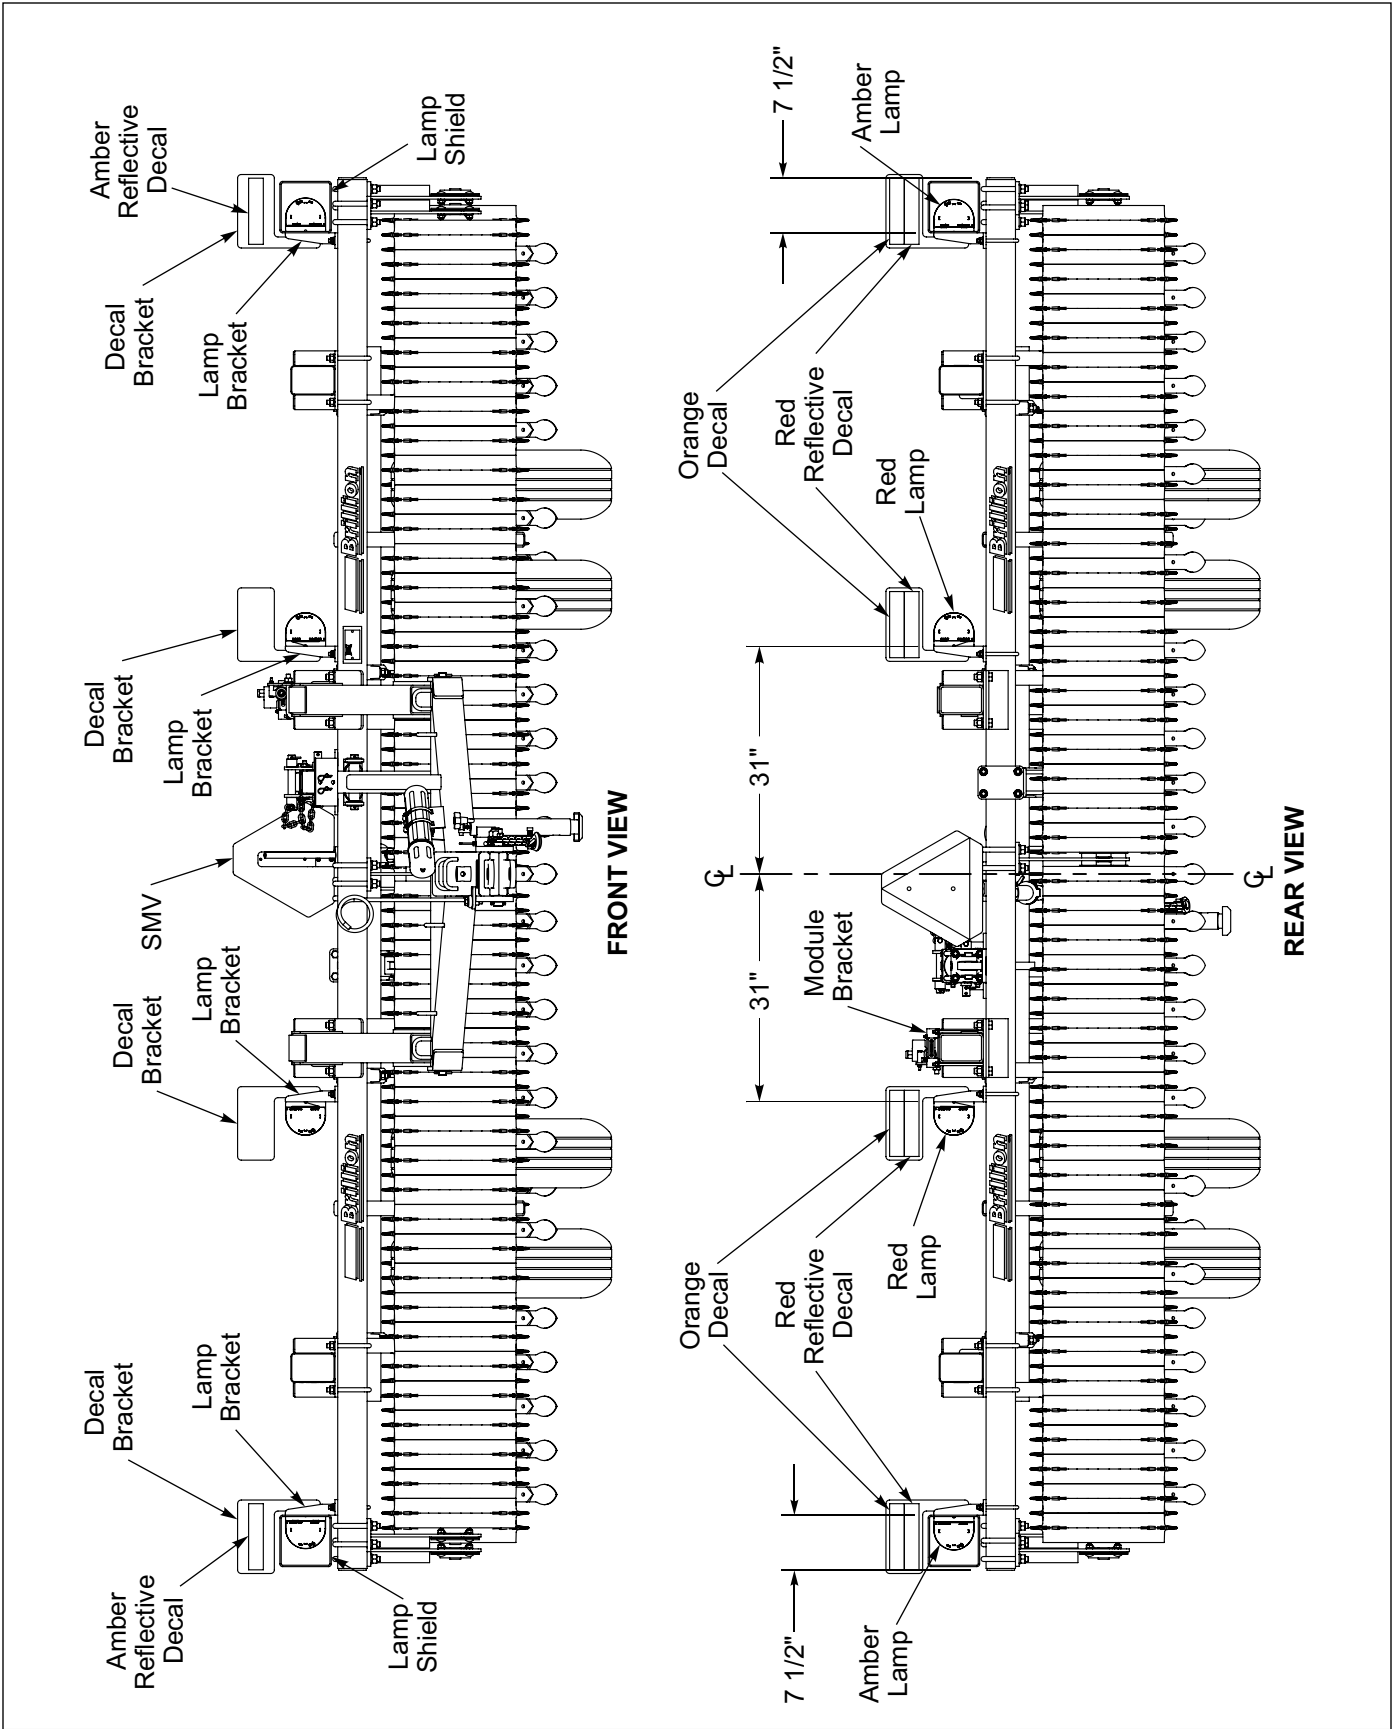

Figure 2-26: LED Warning Lights Installation Dimensions
1. Install a Lamp Bracket approximately 31 inches from center line on each side of the rear frame tube using 1/2-13 U-Bolts and Flanged Locknuts. **See Figure 2-26.**
3. Install a Lamp Bracket approximately 7-1/2 inches from each end of the rear frame tube using 1/2-13 U-Bolts and Flanged Locknuts. **See Figure 2-26.**